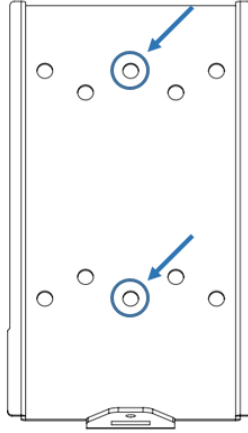

Figure 2-3 Mounting Bracket Screw Hole Locations
- 2.3.6 Install the EVSE (charging station box) bracket to one side of the pedestal so that the middle of the bracket is approximately 48 inches from the ground. Only two screws will be used to attach the mounting bracket to the pedestal, the screws should pass (install) through the middle two vertical screw holes of the mounting bracket as shown in Figure 2-3.